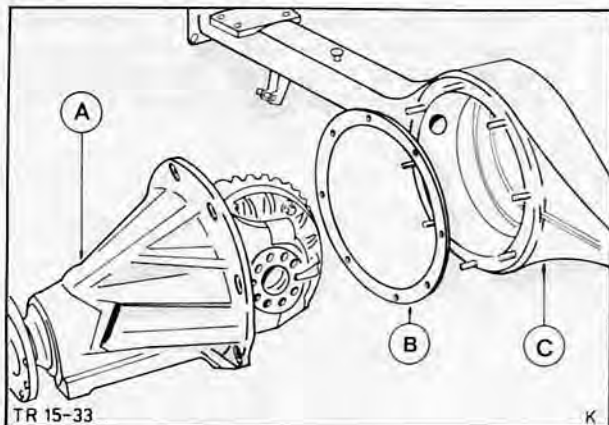

Fig. 97. A – Differential assembly
7. Fit differential assembly in rear axle, Fig. 97.